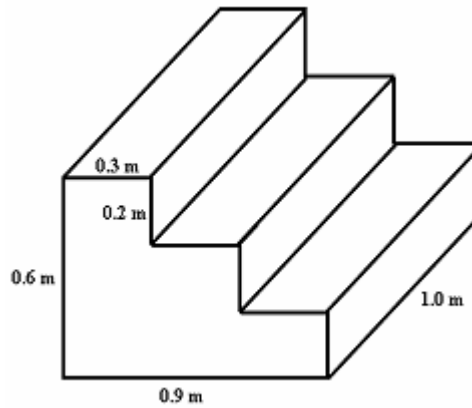

Fig. 1.3: Steps
**Steps** may be constructed to reach the doors (Fig. 1.3). Top of the steps should be parallel to the side walk with a gap of 0.6 to 0.9 m (2 to 3 ft). Obviously, you will be curious to know why such a gap is needed. The reason is, rats and snakes cannot jump over the gap to land on side walk and gain entry into the poultry house. However, there is no hard and fast rule that steps must be constructed.